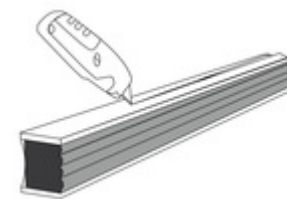

Fig. 2
- Cut the shrink packaging along the edge of the MDF support boards (Fig. 2).